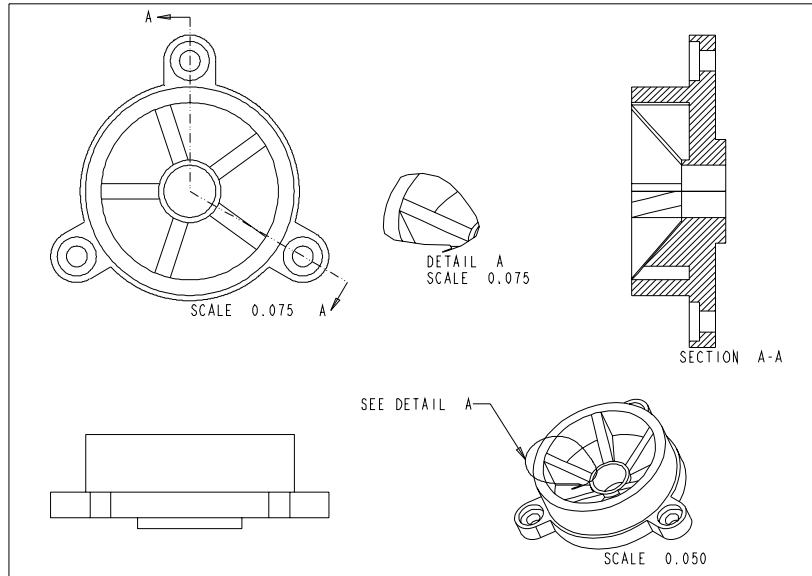

Figure 11-47 The drawing views for Tutorial 1
- Generate the detail view from the 3D view, see Figure 11-47.
A note is also displayed with an arrow attached to the trimetric view. You may need to move the note to a suitable position by selecting it and then dragging the cursor. The final sheet after generating all views is shown in Figure 11-47.